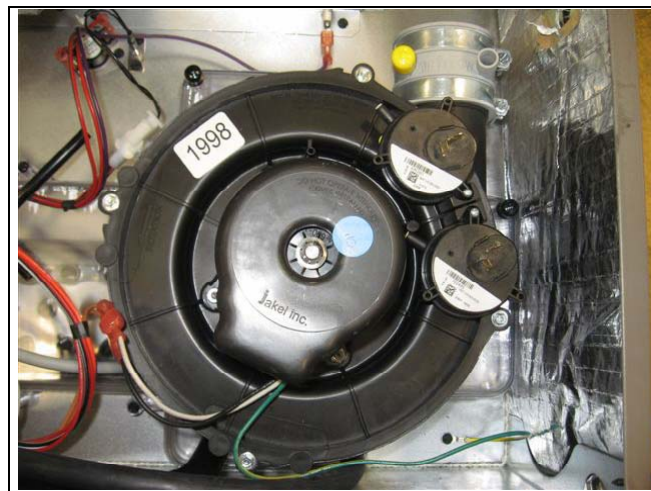

FIGURE 1
3. Install the inducer on the condensate pan as shown in Figure 1.
4. Torque the four screws to approximately 30 in-lbs, making sure that the inducer is tightly secured to the pan and does not leak. See Figure 1.